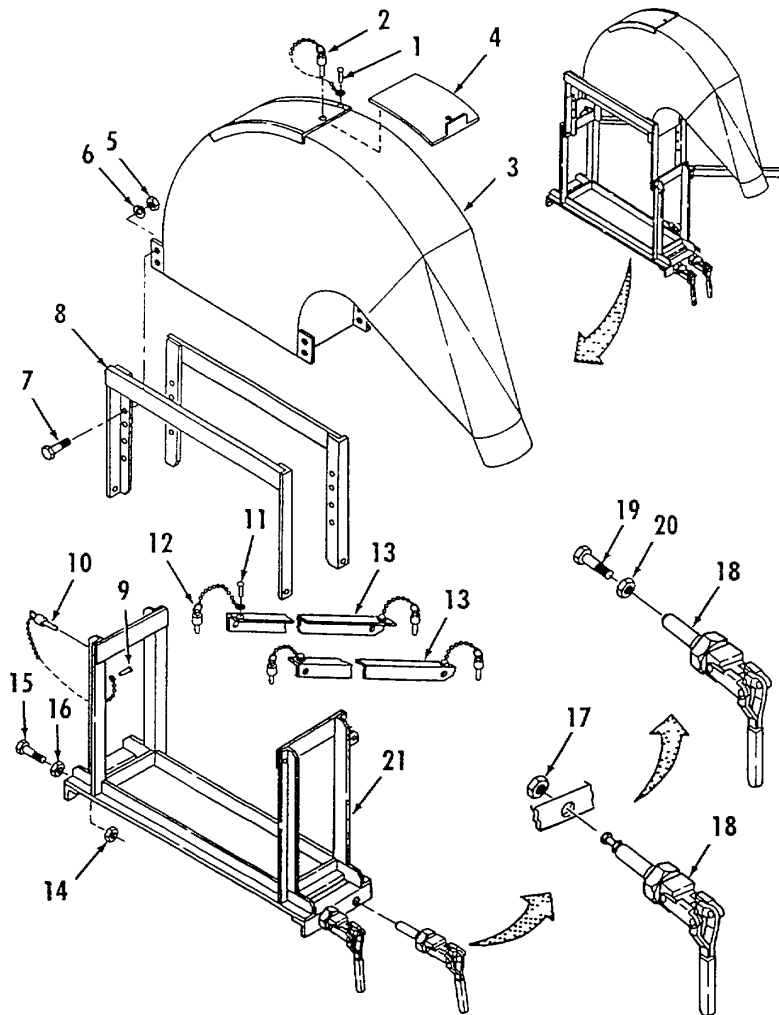

Figure 4-17. Exhaust Deflector repair.
- a. Disassembly. Refer to figure 4-17.
- d. Assembly. Refer to figure 4-17.
- (1) Install two nuts (20) and bolts (19) on locators (18).
- (2) Position two locators (18) in lower frame (21) and install nuts (17).
- (3) Install two nuts (16), screws (15) and nuts (14) in lower frame (21).
- (4) Install two rivets (11) and pins (12) in two angle braces (13).
- (5) Install four pins (10) and rivets (9) in lower frame (21).
- (6) Position deflector (3) on upper frame (8) and install eight screws (7), lockwashers (6) and nuts (5).
- (7) Slide vent (4) onto deflector (3).
- (8) Install pin (21) on deflector (3) with rivet (1).